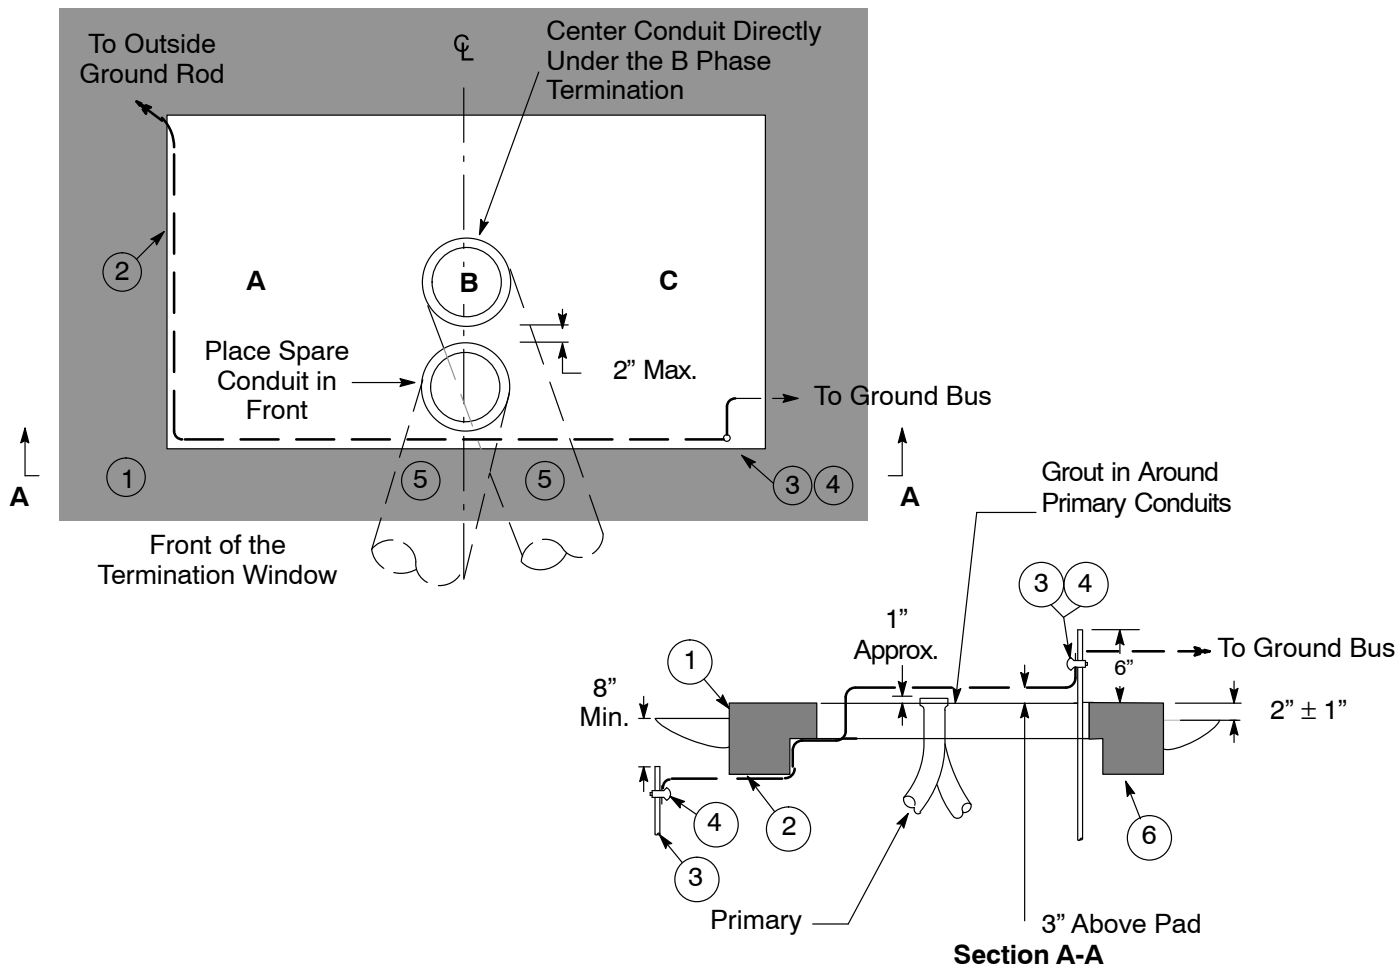

Figure 11-1
- S. Install two ground rods and conduits for the primary service as shown in Figure 11-1 on Page 11-4. These two ground rods are in addition to others that are installed for the switchboard.
Notes in Reference to Figure 11-1